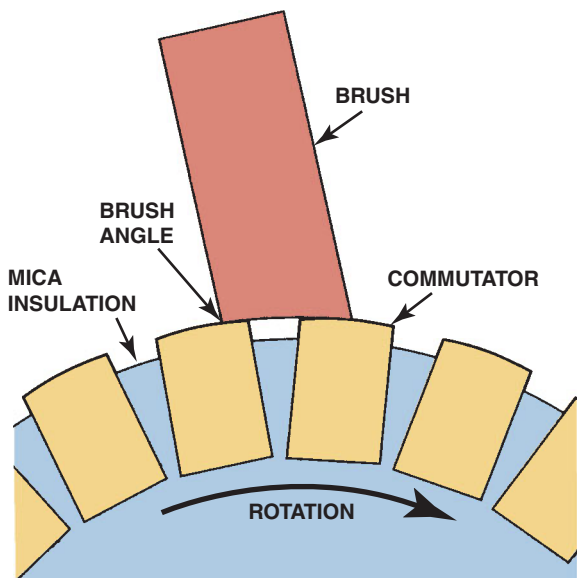

FIGURE 18-10 Replacement starter brushes should be installed so the beveled edge matches the rotation of the commutator.
- **Starter brush inspection.** Starter brushes should be replaced if the brush length is less than half of its original length (less than 0.5 in. [13 mm]). On some models of starter motors, the field brushes are serviced with the field coil assembly and the ground brushes with the brush holder. Many starters use brushes that are held in with screws and are easily replaced, whereas other starters may require soldering to remove and replace the brushes. ● **SEE FIGURE 18-10.**